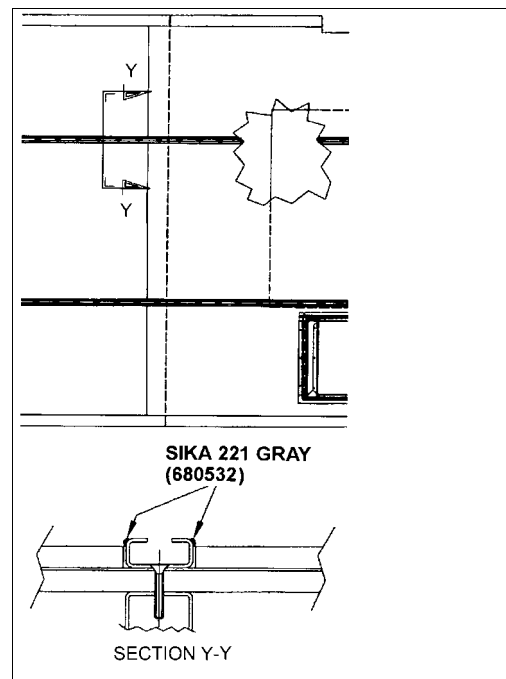

FIGURE 158: APPLICATION OF SIKA 221 GRAY
8. Apply Sikaflex 221 gray sealant (680532) alongside passenger seat fixing tracks (refer to Figure 158).